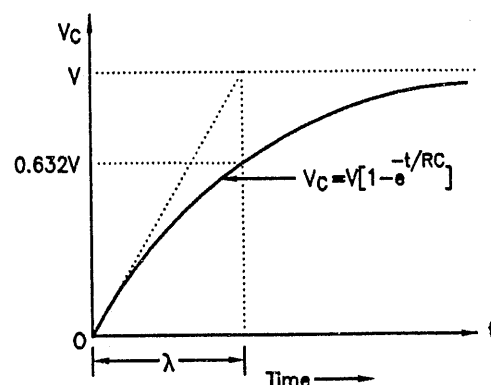

FIG. 1.180 : RELATION BETWEEN V_c AND TIME
- It is represented graphically in Fig. 1.180.